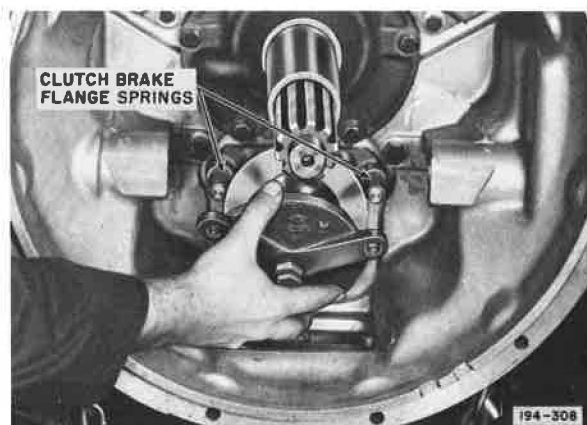

Figure 5-67. Installing Clutch Brake Pressure Plate
32. Install clutch brake flange springs on cover pins, then install clutch brake pressure plate. See Figure 5-67.